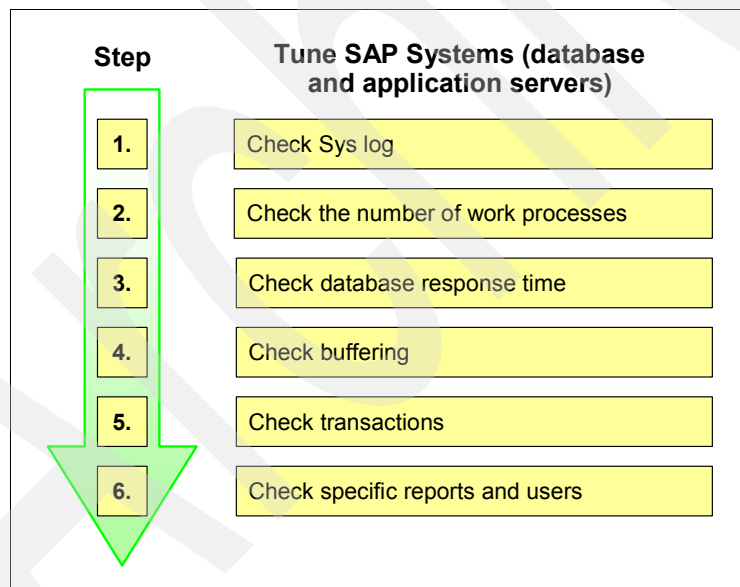
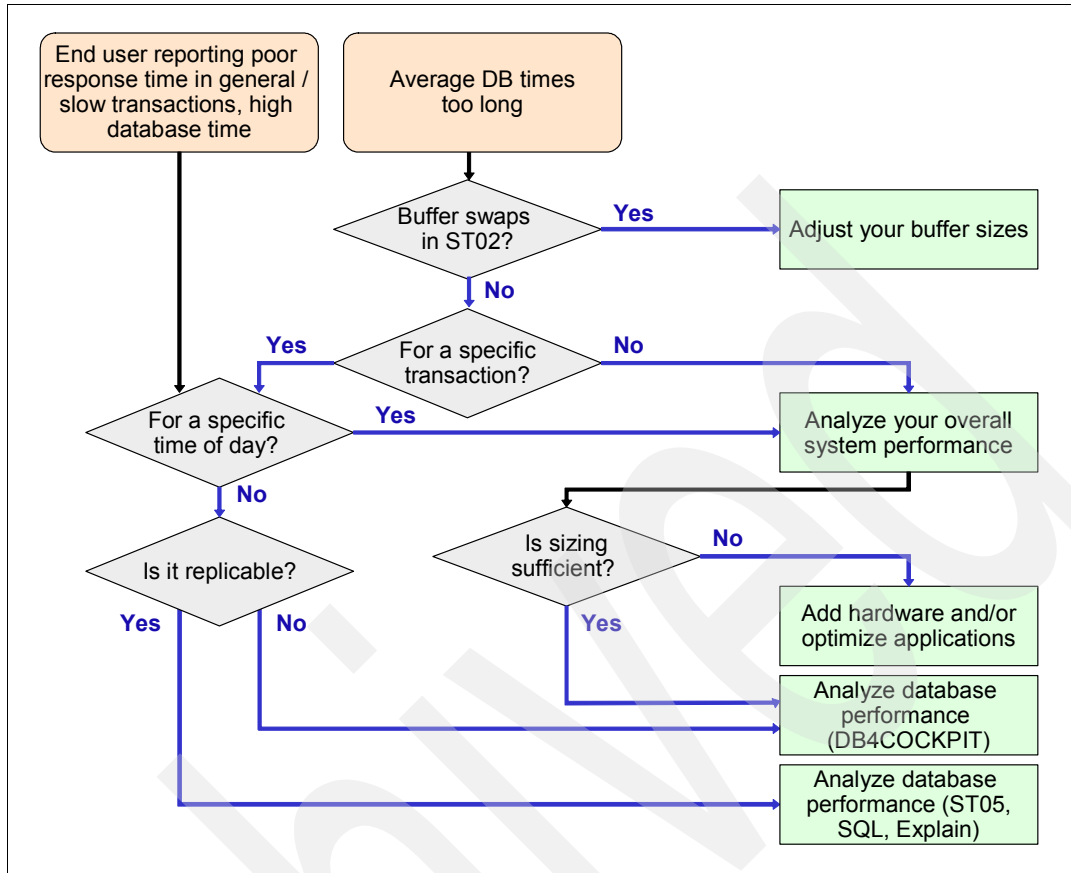

Figure 26-3 Steps to tune an SAP system
Figure 26-5 An approach to analyze database performance
Figure 26-3 shows the steps involved in tuning an SAP system.
The steps represented in Figure 26-3 are described in this section.
The steps following those shown in Figure 26-3 on page 539 include checking database response time, buffering, transactions, as well as specific reports or users as Figure 26-5 on page 542 shows.
- ▶ If the user problem or transaction can be repeated, use ST05 and SQL. Refer to step 5 and 6 in Figure 26-3 on page 539 to find long-running database statements.
To check the transactions (step 5 in Figure 26-3 on page 539), refer to 26.2, “Analyzing and optimizing single transactions” on page 554.
To check specific users and reports (step 6 in Figure 26-3 on page 539), refer to 26.1.1, “Tuning an SAP system” on page 539 and 26.2, “Analyzing and optimizing single transactions” on page 554.